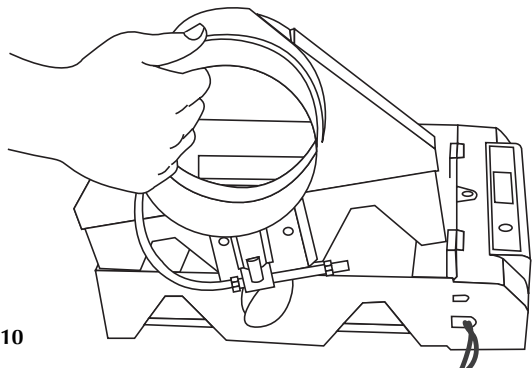

Figure 10
- Lift the humidifier side out of the right hand position, turn the part and position it on the other side of the humidifier. (fig. 10)